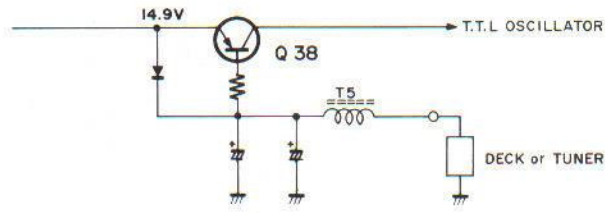

Fig. 3
- The power amplifier is automatically switched on and off by a built-in electronic switch synchronously with your deck or tuner. When the deck or tuner is switched on, Q38 is equivalently grounded, and switched on, thereby supplying the power to the T.T.L. oscillator to operate it. (Fig. 3)